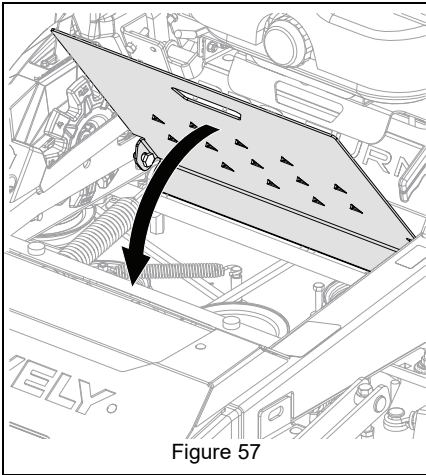

Figure 57
6. Lift access panel to close panel. See Figure 57.